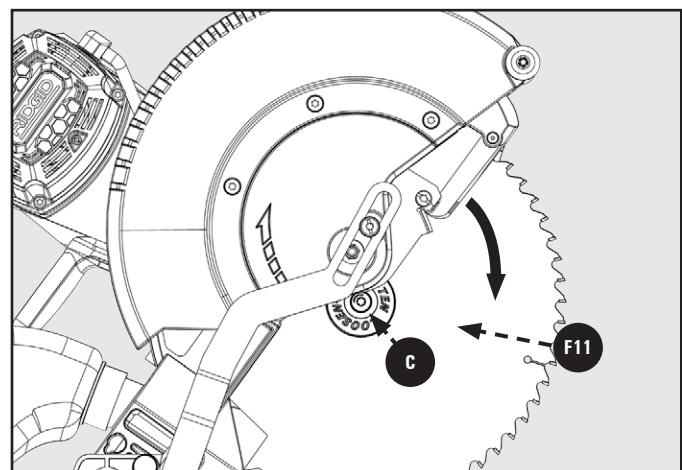

Figure 10
6. Remove **ONLY** the Outer Blade Washer **C** and the Blade **F11**, leaving the Inner Blade Washer on the Spindle. See Figure 10.